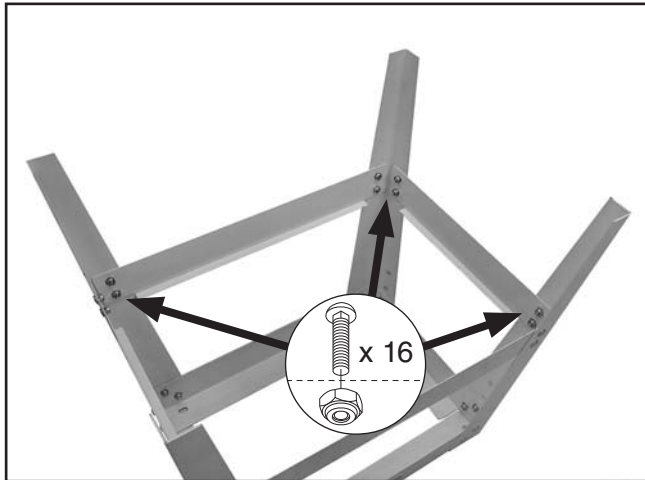

Figure 7. Bottom braces attached to the legs.
2. Attach the bottom braces to the legs, as shown in **Figure 7**, with the remaining (16) M8-1.25 x 12 carriage bolts and M8-1.25 lock nuts.